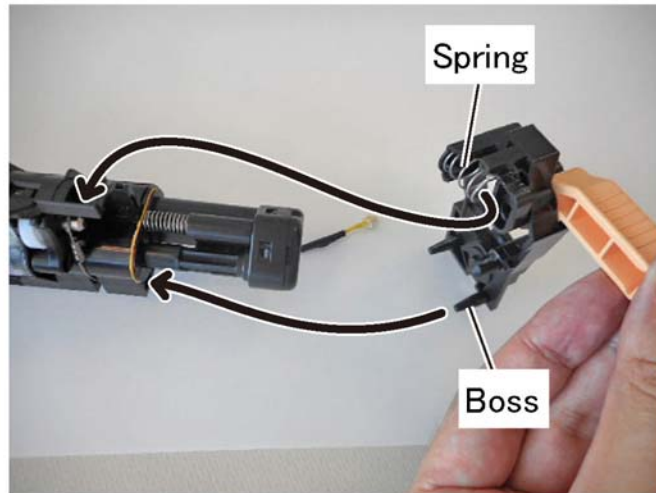

Figure 4 Developer front cover
7. Install the developer front cover to the new developer assembly in order to use as a stand, Figure 4.